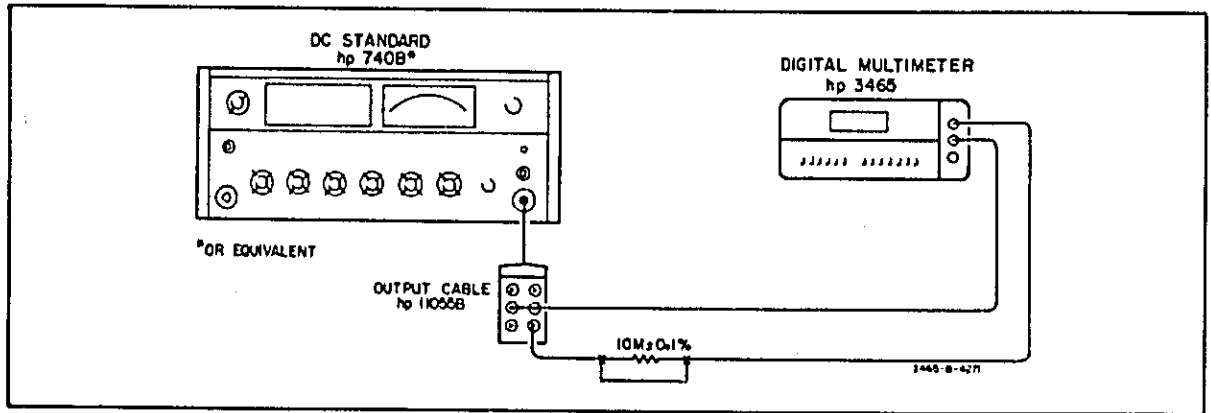

Figure 5-7. DC Voltmeter Input Resistance Test.
- a. Connect the Multimeter, DC Standard and resistor as shown in Figure 5-7.
- b. Set the Multimeter function to DCV (V) and range to 20 V .